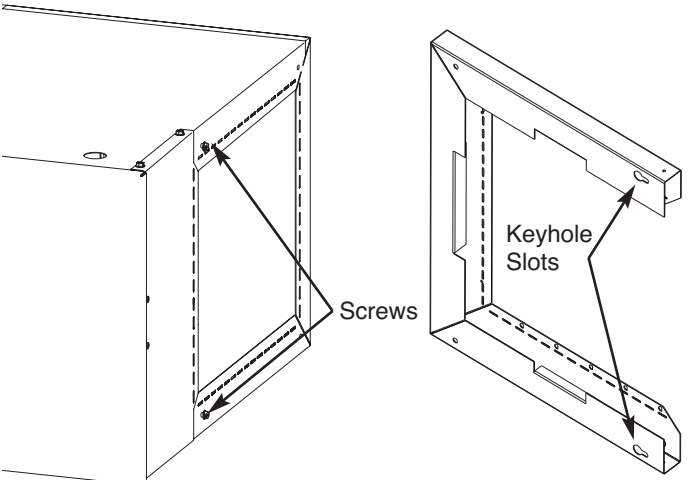

Figure 3
- Determine orientation of the filter rack to permit sufficient clearance for access to service the filter. Note location of the keyhole slots on the back of the filter rack and insert two screws removed from grille in the heater corresponding to the keyholes in the filter rack but do not tighten (see Figure 3). Slide filter rack keyholes over the screws and tighten the two screws to hold filter rack in place. Insert the remaining two screws from grille at opposite end and tighten.